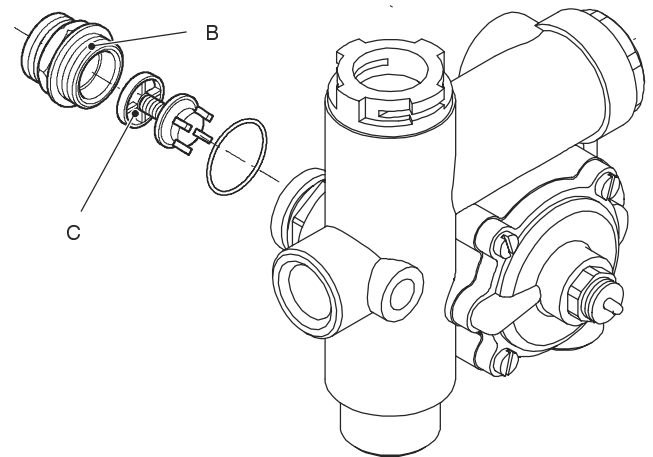

Fig. 16.2
- 4 Unscrew the connector B and remove the by-pass valve C (Fig. 16.2).
- 5 Reassemble the by-pass valve as illustrated in Fig. 16.2 reversing the order of removal.